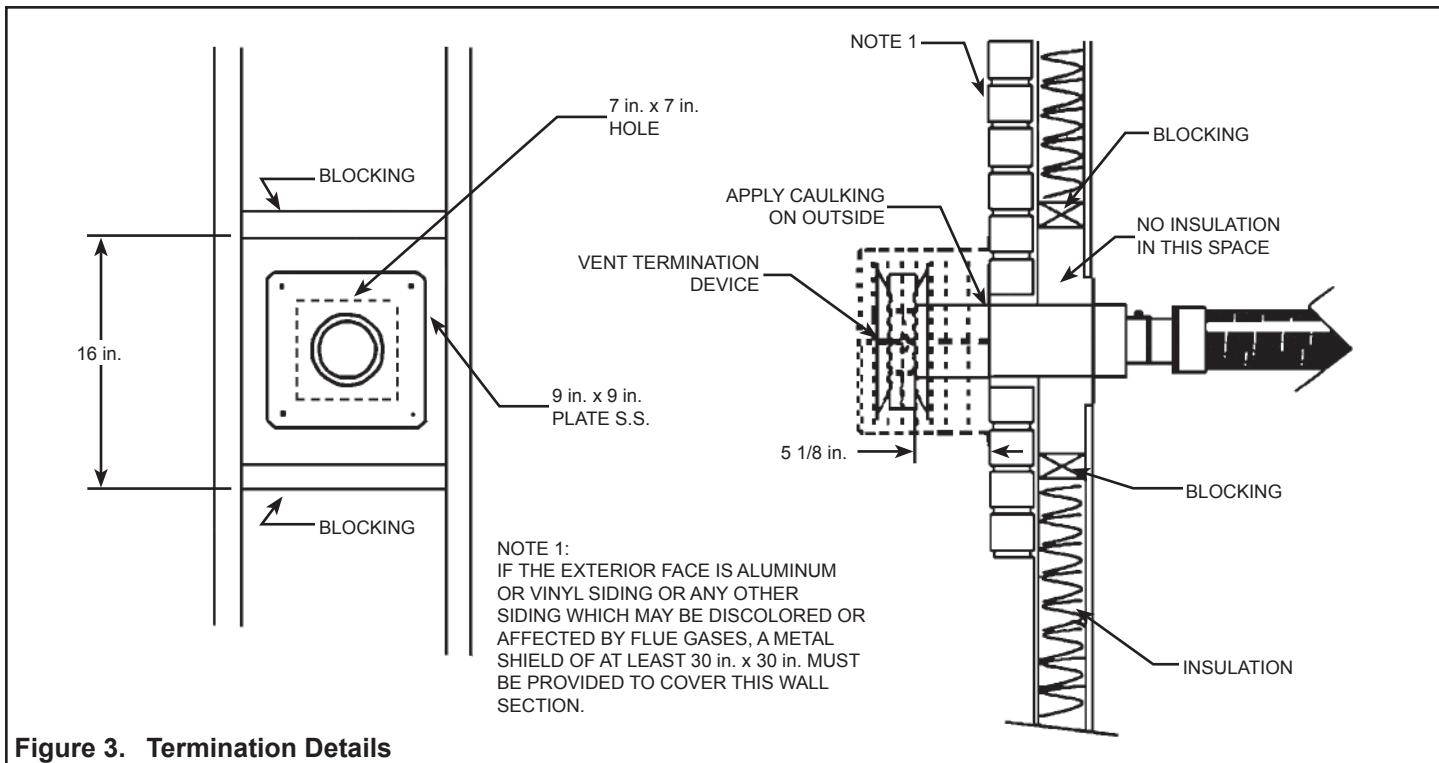

Figure 3. Termination Details
The vent terminal must have sufficient clearance from ground level so that it will not be buried in snow. The location of the vent terminal must also meet the regulations of the “**Installation Code for Oil Burning Equipment**” NFPA 31 (also see Figure 3).
1. Drill or cut an opening through the exterior wall and fasten the vent terminal as shown in Figure 3.
5. Maintain clearances to combustible material (2" x 4" or 2" x 6" framing) as per Figure 3. **Note:** If the flex duct is to be located between joists, the spacers provided must be used to maintain clearances to combustible material.